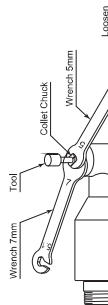

Fig. 3
- ① Remove the tool according to the section " 8. CHANGING THE TOOL " procedure above (Fig. 3).